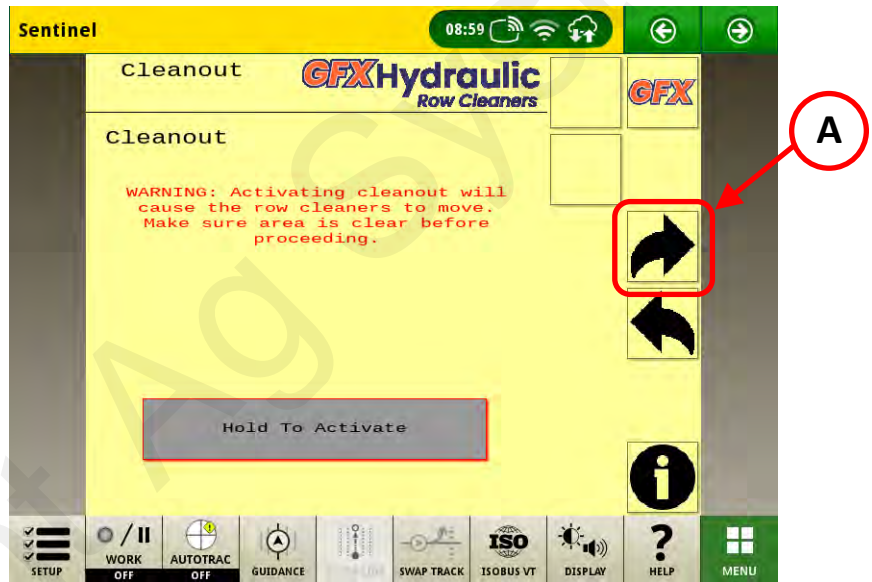

Figure 5.22
- 7) Press the next page button, (fig 5.22 item A) to navigate to presets page (fig 5.23).